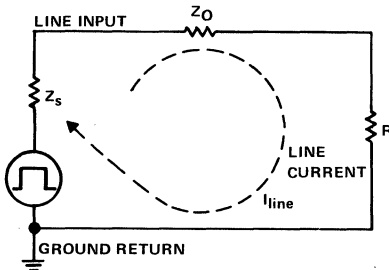

Figure 33. Diagram Representing a Gate Driving a Transmission Line
The total propagation delay is of secondary importance in generation of internal noise. The actual transition time determines the amplitude and frequency spectrum of the generated signal at the higher harmonics. Application of the Fourier integral to series 'ALS'/AS waveforms shows frequency components of significant amplitude that exceed 100 MHz. Because of the frequency spectrum generated when an 'ALS'/AS device switches, a system using these devices must consider problems caused by radio frequency (RF) even though the repetition rates may be only a few megahertz. The transient currents generated by charging capacitors, changes in the levels of dc, line driving, etc., must be considered. In Figure 33 for example, a gate driving a transmission line is represented by a voltage source E, having an output impedance Z_S connected to an impedance Z_0 , and loaded with a resistance R_L .